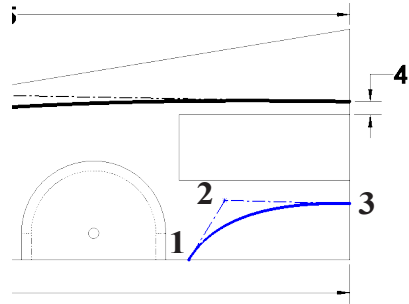

Fig. 24
Step 10. Sketch a **3 control vertex point Style Spline** under Cartridge hole, **Fig. 24**. To sketch Style Spline, click bottom edge of Body behind rear shell for 1st control vertex point. Click above and to the rear for 2nd control vertex point. Then, click rear edge of Body just below Cartridge hole for 3rd control vertex point. Press Esc to end spline.